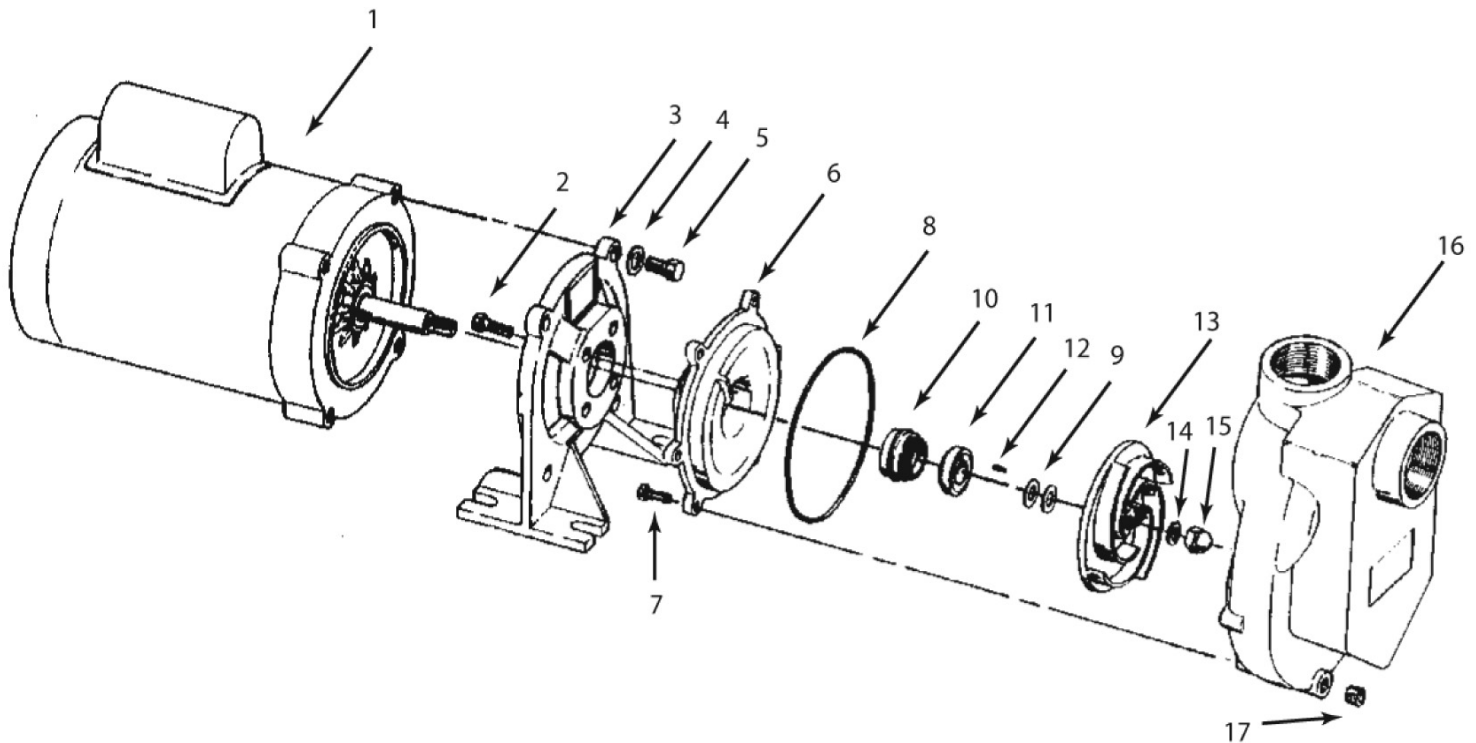

Figure 3 - Repair Parts Illustrations
8. Apply a light coat of sealing compound to new seal head (See Figure 2) and press it into casing cover recess using proper size tube or installation tool (see Figure 3). DO NOT press on carbon face or top of metal cup of the seal head. Install using flange only.